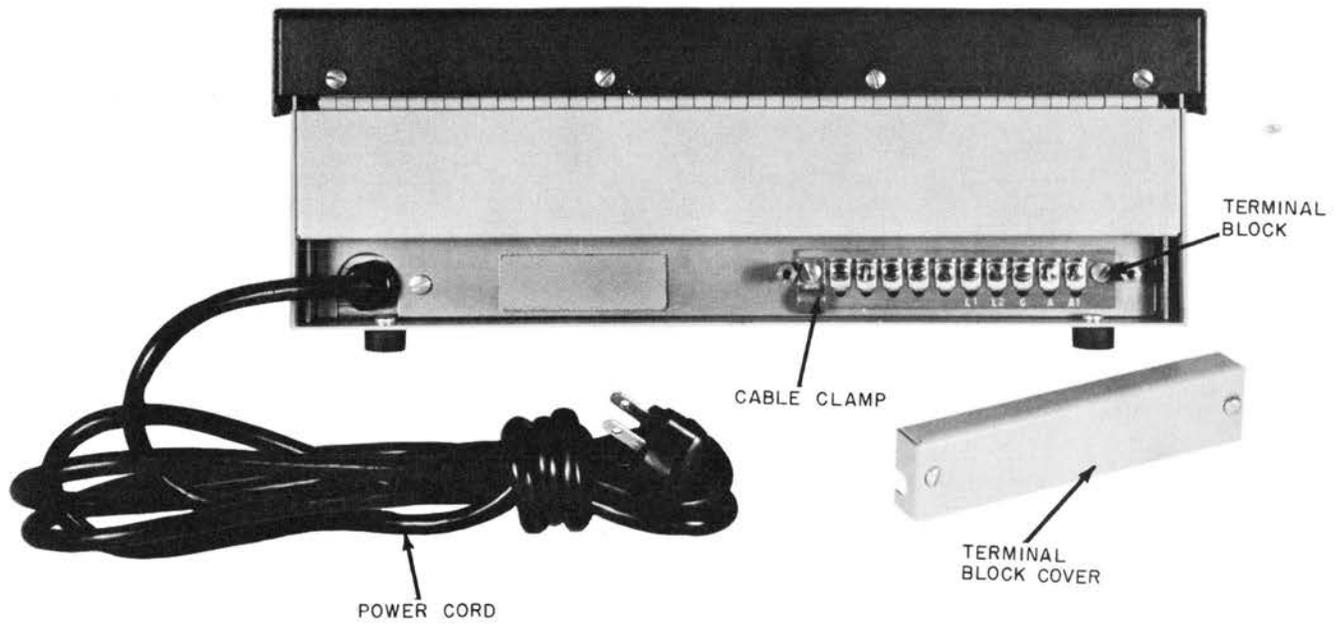

Figure 2. Model AO-3 (rear view).
- 2.05 Connect a three wire, insulated cable (preferably of red, green, and yellow insulation) to the terminal block. Connect red lead to L1, green to L2, yellow to G (see figure 2). Secure the cable clamp and replace the terminal block cover.
- 2.07 At 10A1 (or 1A1) key system installations, terminate A and A1 leads on terminal block terminals so designated (see figure 2).